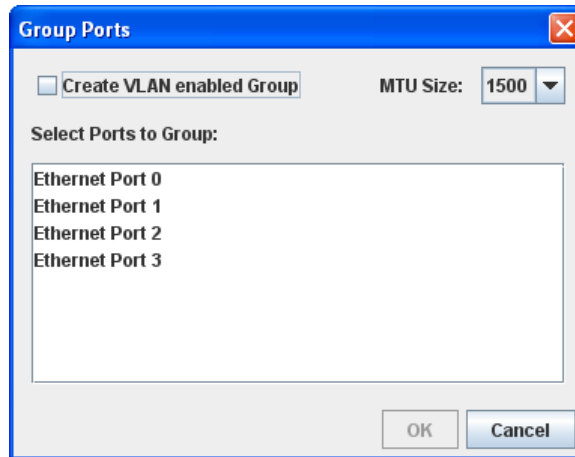

Figure 7-9. Group Ports Dialog Box
- Any of these steps Displays the Group Ports dialog box (see Figure 7-9).*